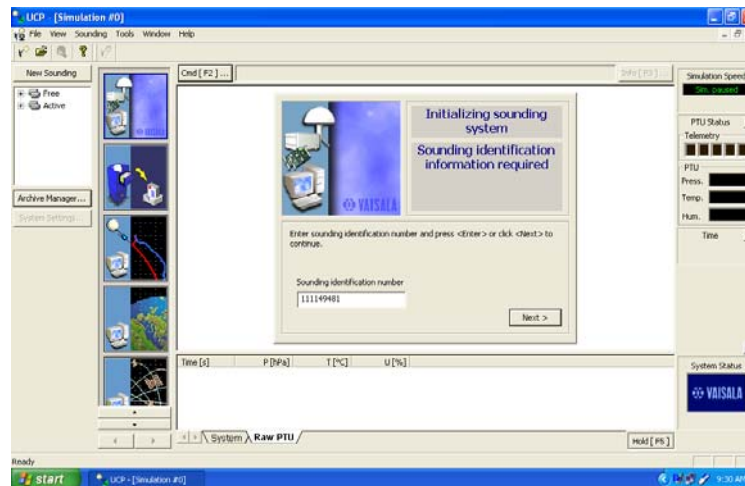

Figure 9b
- 9) Enter the sounding number using our usual codes: **XXMMDDYYn**, where **XX** is 21 for Manus, 22 for Nauru, and 90 for AMF (see Figure 9b). Click on “Next.”